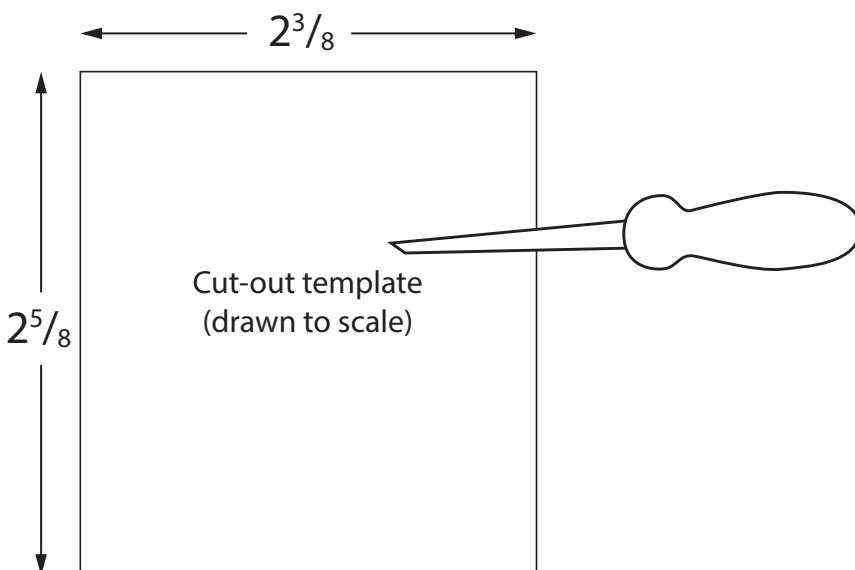

Figure 1
2. Remove top cover from housing by unscrewing side screw on lip of cover. See Figure 1.
3. Two 3/4" knockouts exist on the back of the housing (see Figure 1); choose which one to use and punch out the metal center.